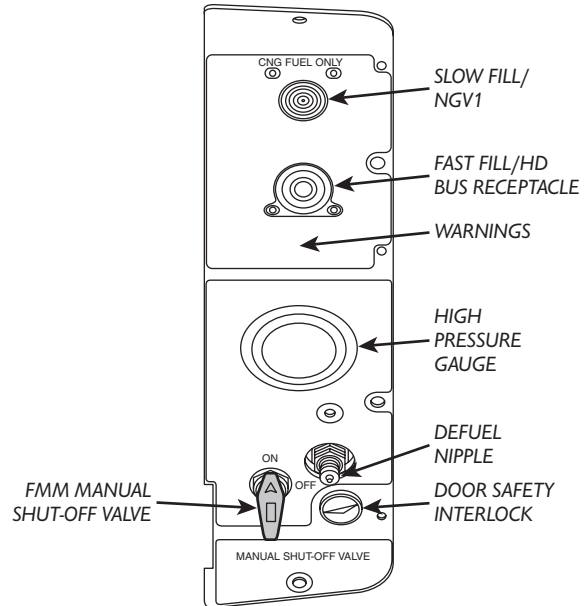

FIGURE 18 – FUEL MANAGEMENT MODULE
1. Open the fuel access door. Remove the cap from the appropriate fueling receptacle. (Figure 18)